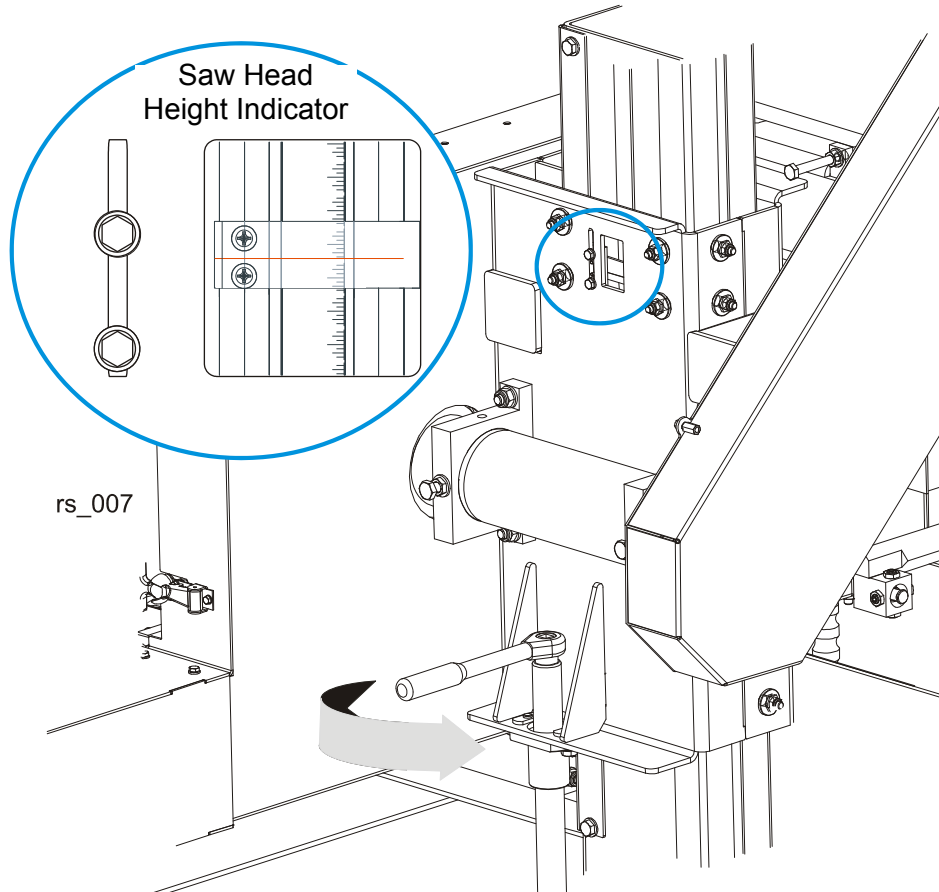

FIG. 2-16
**See Figure 2-16.** To raise or lower the saw head, use the acme screw as shown in the figure. Turn the screw clockwise to raise the saw head; counterclockwise to lower the saw